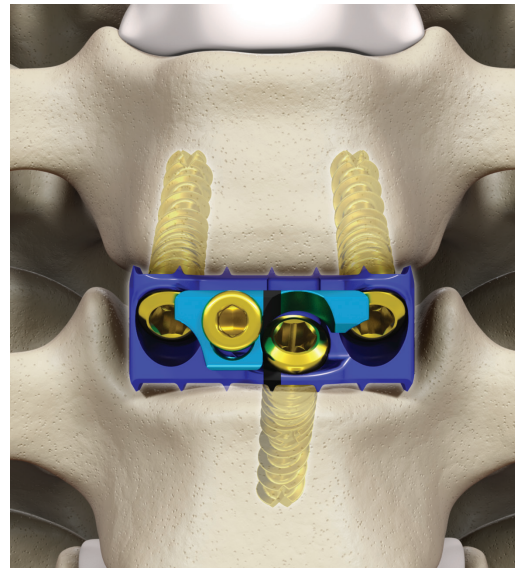

Figure 44
- Turn the driver clockwise. As the screw tightens, the teal locking cap will slide over the screw heads. Turn the torque limiting handle until an audible click is heard when the locking mechanism is tightened to 4 in-lb. The locking mechanism and torque limiting handle will provide visual, audible and tactile confirmation that the locking mechanism is fully secured and the screw heads are partially covered (Figure 44).